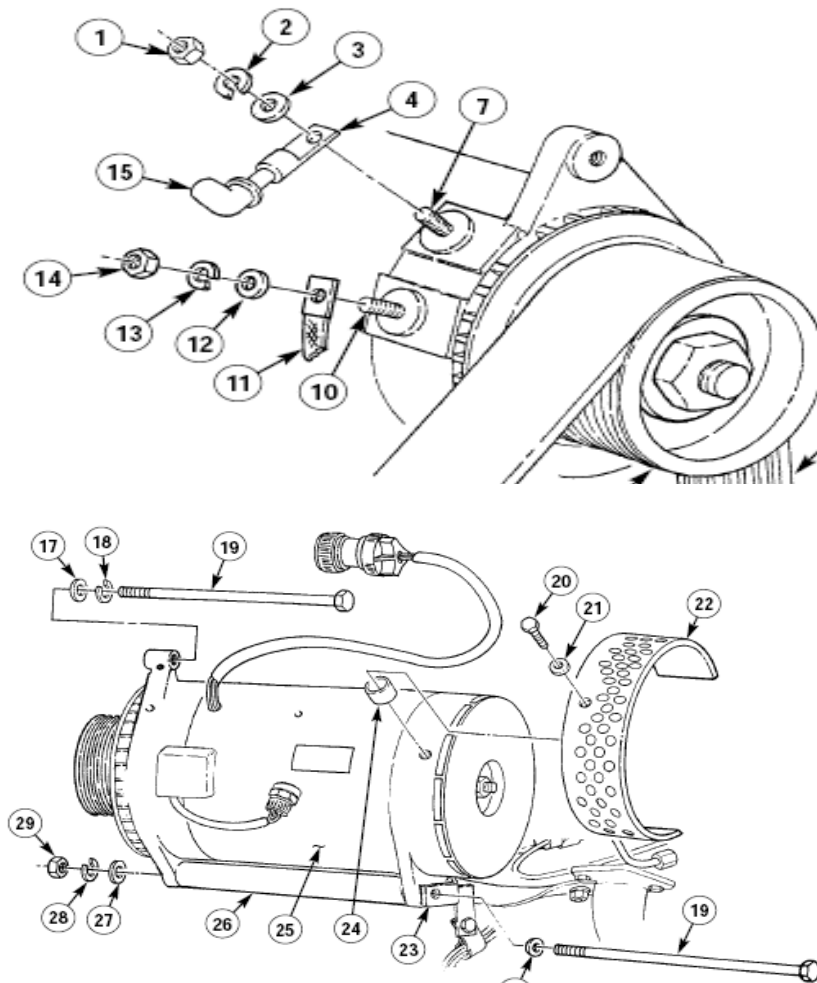

Figure 12
I. Removal of 200-AMP Alternator. TM 9-2320-387-24-1, Chapter 4, Task Para 4-5, Page 4-8 and **Figure 12** contained in these instructions.